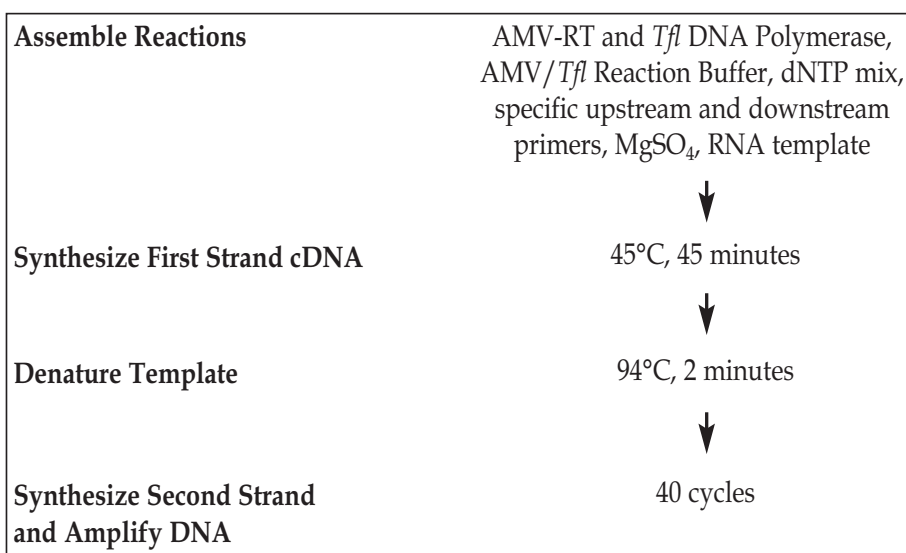

Figure 1. Outline of the Access RT-PCR System protocol.
Virus for first strand DNA synthesis and the thermostable *Tfl* DNA Polymerase from *Thermus flavus* (2) for second strand cDNA synthesis and DNA amplification. The Access RT-PCR System includes an optimized single-buffer system that permits extremely sensitive detection of RNA transcripts without a requirement for buffer additions between the reverse transcription and PCR amplification steps (Figure 1). This simplifies the procedure and reduces the potential for contaminating the samples. In addition, the improved performance of AMV Reverse Transcriptase at elevated temperatures [45°C^(b)] in the AMV/*Tfl* 5X Reaction Buffer minimizes problems encountered with secondary structures in RNA.